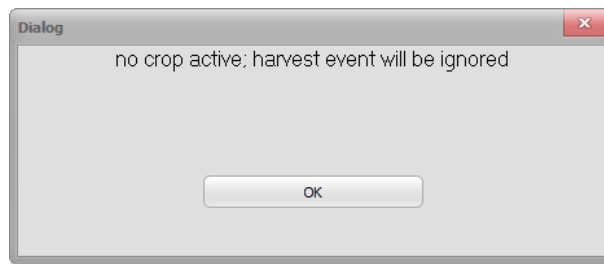

Figure 26: Message caused by starting the simulation between sowing and harvesting
- Is the order of actions in your management data correct? (Figure 26)